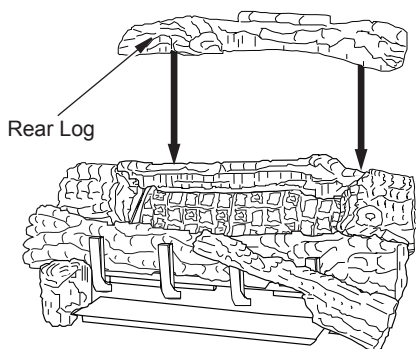

Figure 31 - Installing Rear Log
8. Rest rear log in back corner sections of chassis assembly as shown in Figure 31.